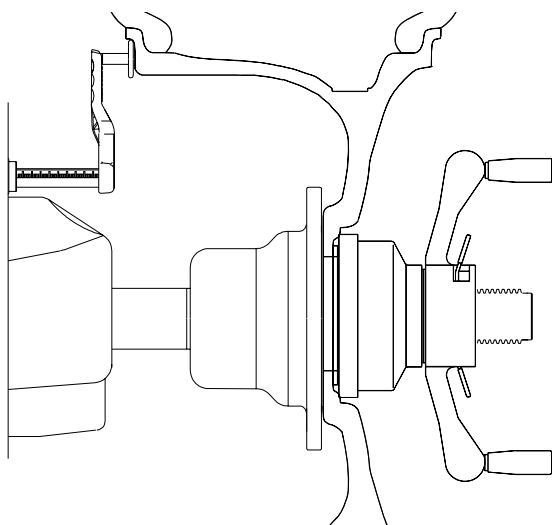

Figure 21
**4.5.1 Distance (rim offset)** - Grasp the offset gage arm at the end of the shaft and move outward to the edge of the rim, touch the pointer to the rim edge as illustrated in *Figure 21* and hold steady for about a second. Avoid flexing the measurement arm extension. The beeper will sound and the distance values will be entered automatically. Return the arm to its fully in and down position on the balancer. Do not allow the measurement arm to "dangle" down in front of the balancer.